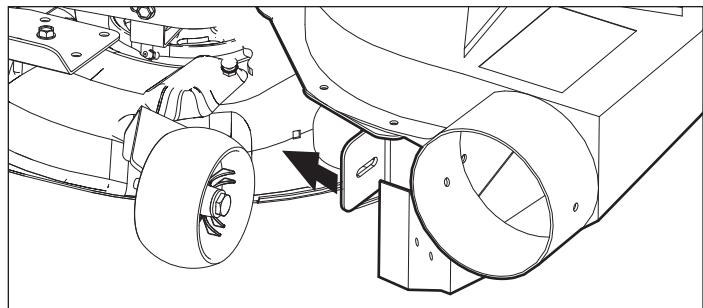

Figure 23
1. Push turbo up against mower as shown in Figure 23.